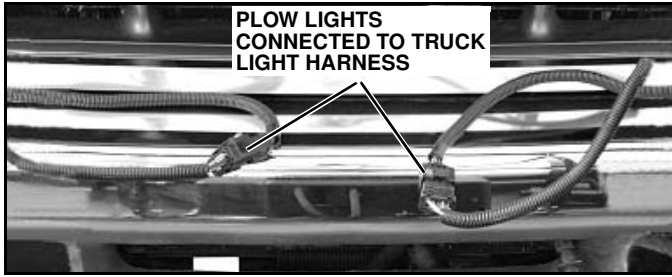

Figure 1-34
2. Plug EIS® plow light connectors into mating connectors on truck light harness. (See Figure 1-34).